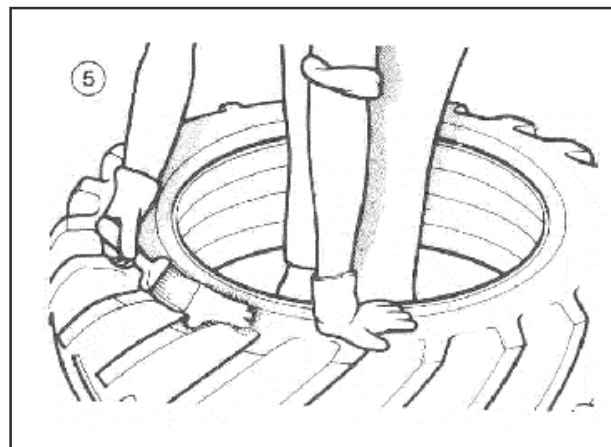

Fig. 4
5. Lubricate the rim, tire and base of the tube with a solution of soap and water or similar rubber lubricant. (Fig. 4).